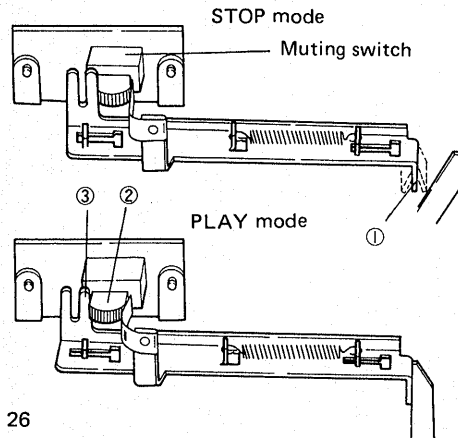

Fig. 26
Adjustment Standard (Fig. 26)
1. Adjust by bending (1) in Fig. 26 so that the standards above are satisfied.
2. Adjust by bending (3) so that there is no gap between (2) and (3) in PLAYBACK mode.